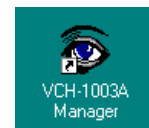

Fig. 6.2
On the desktop of the Control terminal **PC-1** the icon **VCH-1003A Manager** is also displayed (see fig. 6.2).
- b) To start the software by clicking the icon **H-manager** (see fig. 6.2).